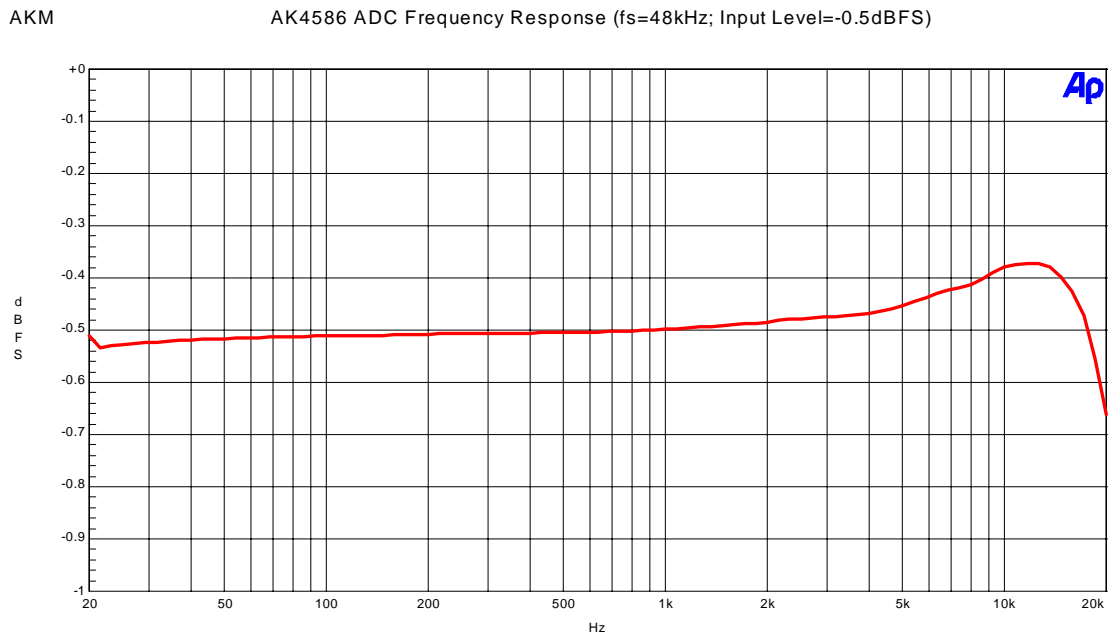

Figure 1-7. Frequency Response (Input Level=-0.5dBFS)
- Figure 1-7. Frequency Response (Input Level=-0.5dBFS)